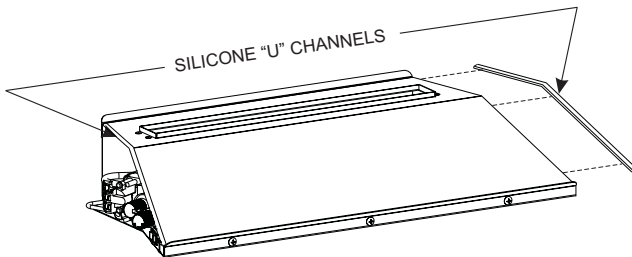

Figure 29
2. Before applying the glass to the burner top, attach the black silicone "U" channel edges (located in the Instruction Envelope) to each side of the Top Cover. **See Figure 29.** These "U" channels will help keep the decorative glass from falling over